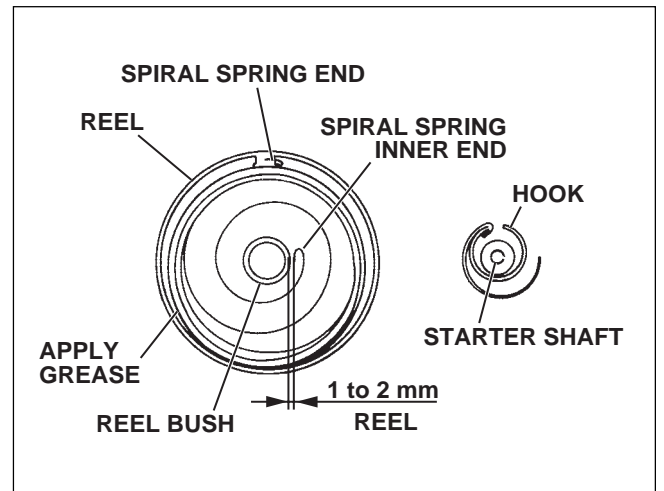

Fig. 9-4
(2) Check that the spring is securely set in the reel and form the spring end to have 1 to 2 mm clearance between inner end of the spring and the reel bush so that the inner end catches the hook securely as shown in Fig. 9-4. The shape of spring inner end (approx. 10 cm from the end) can be adjusted with plier if necessary.
Refer to Fig.9-4 for which way the spiral spring must be placed.